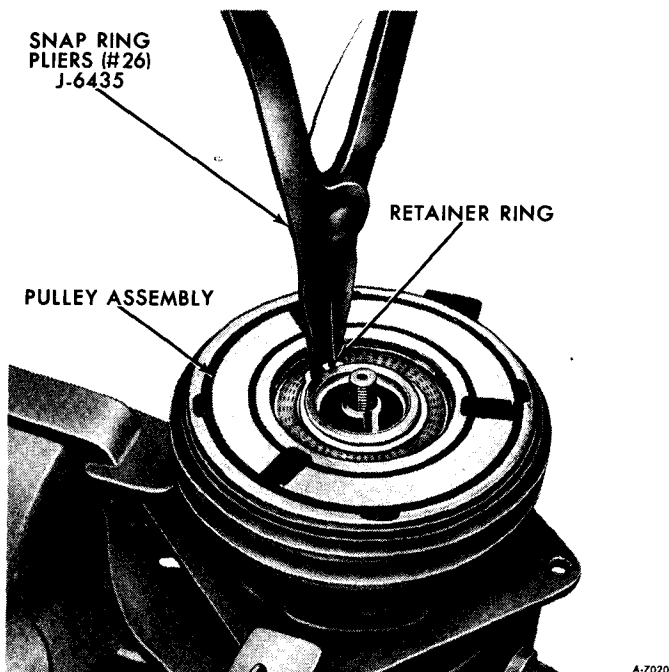

Figure 77—Removing Pulley Retainer Ring
2. Remove pulley retainer ring using Snap-Ring Pliers J-6435 (#26), figure 77.